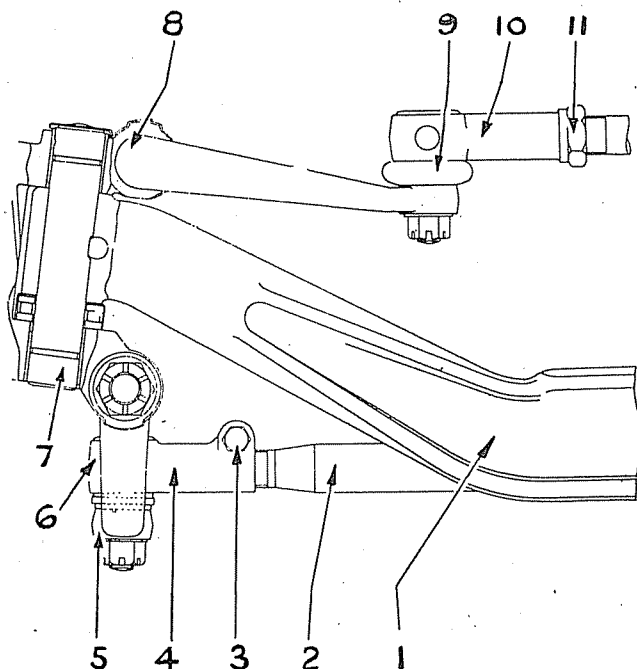

Fig. 3—Assembly of Tie Rod and Drag Link. (3-59A, 6-71A, 8-65A, 8-71A, 8-71A-D).
NOTE: On models 1-08A, 2-26A and 2-33A fitted with fore and aft steering, as shown in Figure 3, refer to paragraph 4 for removal and installation instructions.
- (1) The tie rod and drag link ball joints are not adjustable, and if excessive wear takes place, the complete ball joint assembly will have to be replaced. (Figure 3).
- (2) On the tie rod, the ball end is fitted in the tie rod lever (5) on a taper and secured by a nut and cotter pin..
- (3) To disassemble, remove the cotter pin and nut and give the end of the ball pin a sharp tap with a hammer to free it from the taper.
- (4) Loosen the clamp bolt (3) and the tie rod adjustable end (4) and unscrew from the tie rod (2).
- (5) When fitting new parts make certain the ball end fits correctly in the tie rod lever taper.
- (6) Retrack the front wheels (Refer Service Standards) and tighten securely the ball pin and clamp bolt nuts.
- (7) The drag link ball ends are fitted at one end to the steering knuckle arm (8) and at the other to the steering Pittman or drop arm, both ball pins being fitted on tapers and secured by nuts and cotter pins.
- (8) To remove an adjustable drag link end, firstly slacken the lock nut (11).
- (9) Remove the ball pin in a similar manner as the tie rod ball end (Item 3).
- (10) Unscrew the ball end from the tie rod (right and left hand threads) and after fitting new adjustable end, adjust the drag link end so that a full right and left hand lock is obtained, then securely tighten the ball pin nuts and cotter pins.